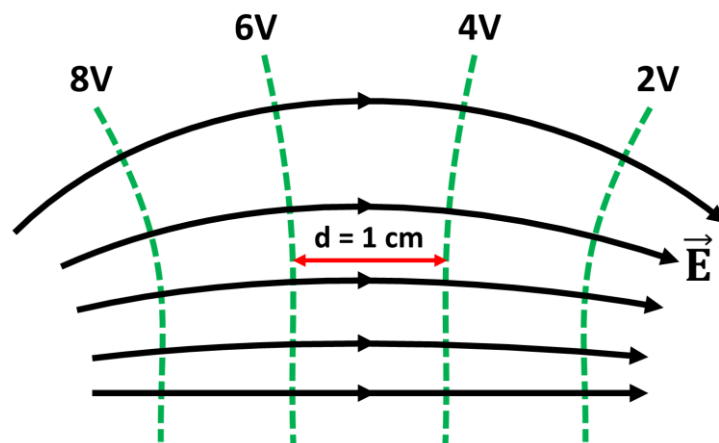

Fig. 3: A voltage difference of 2 V over a distance of 0.01 m corresponds to $E = 2/0.01 = 200$ V/m.
A similar relation exists between a constant electric field (F/q') and electric potential (U_E/q') as shown in Eq. (4) and Fig. 3.
2. Use the measured distance along with the voltage difference to calculate the electric field strength according to Eq. (4) and Fig. 3.